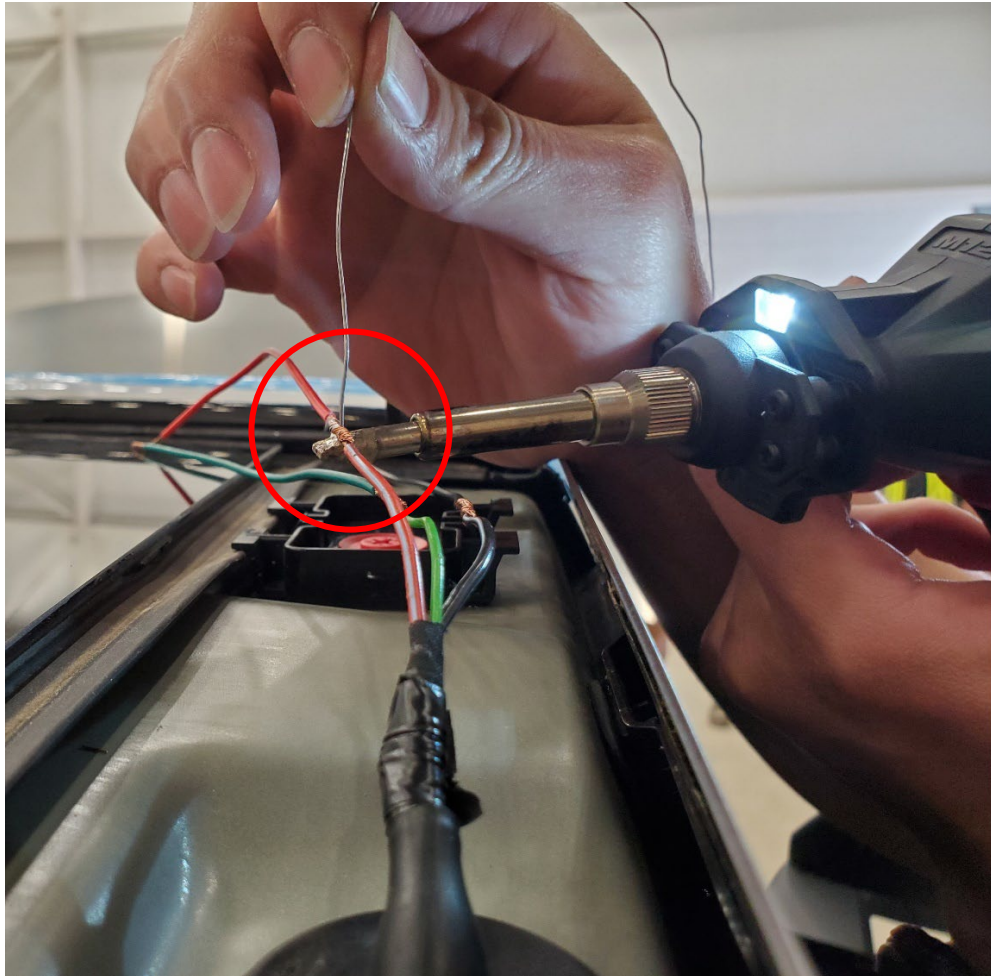

Figure 15 – Solder application
- f. Use the soldering iron to apply solder onto the wires (x3) (Figure 15).